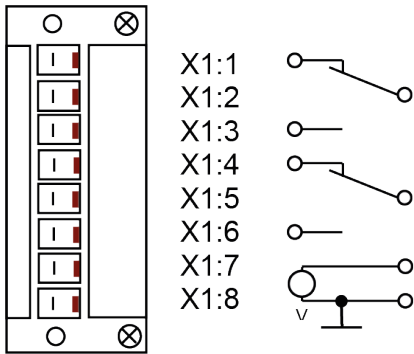

Figure 4: Connections of the 8-pin connector
- If required, interconnection of the relay output with the test set control (see Figure 4)
The relay contact output is connected via an 8-pin plug component (PC4/8ST-7,62). The pin connection for this plug is shown in Figure 4.
A maximum voltage level for $\hat{U}/\sqrt{2}$ or U DC can be set to trigger the relay switch U_{max} on the rear panel. If the voltage $\hat{U}/\sqrt{2}$ or U DC exceeds the set limit, the contact between X1:5 and X1:6 is closed (see Figure 4).
The dU/dt mode defines the action taken after a breakdown has occurred. With "OFF" selected, nothing will be done. With "COUNTER" selected, the number of breakdowns is displayed. This number can be set to zero by "RESULT" and "CLEAR". With "RELAY" selected, a breakdown will switch the dU/dt relay (see Figure 4).
The different settings are "VERY LOW", "LOW", "MEDIUM", "HIGH" and "VERY HIGH". The voltage values of two successive cycles are compared. The maximum deviation in percent of the maximum voltage is compared with a predefined value, depending on this setting. The setting "VERY LOW" allows a higher deviation than "VERY HIGH". If this deviation exceeds the limit and the "RELAY" mode is selected, the relay contact X1:1 – X1:2 is opened (see Figure 4).
In this setting, a maximum voltage change per time [kV/ms] can be set to detect single voltage dips. In case a single breakdown or flashover occurs and the dU/dt value is exceeded, the relay contact X1:1 – X1:2 is opened (see Figure 4).
The recorder output terminal (x1:7 and x1:8, see Figure 4) may optionally be connected to a paper recorder or other device to provide a graph of the voltage magnitude. The voltage output gives 0 to 10 V DC and corresponds linearly to the displayed (selected) voltage. If, e.g., the "REC" level is set to 100 kV and the display shows 65 kV, the voltage output equals 6.5 V. The REC output value is altered together with the selection of the displayed voltage.